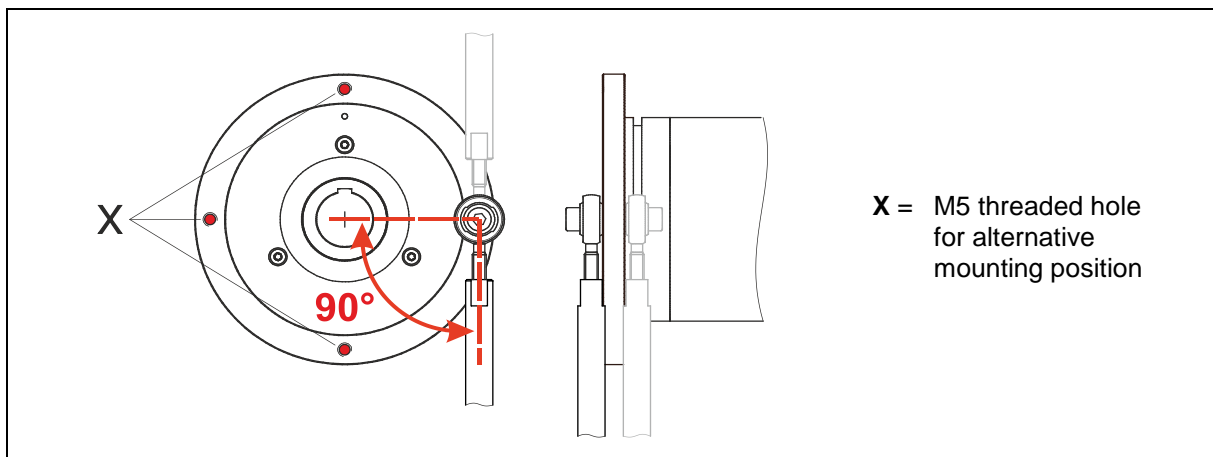

Figure 9: Joint head rod – mounting variants
- The joint head rod can be positioned on the measuring system flange in several ways. See Figure 9: Joint head rod – mounting variants.
- For maximum support of the measuring system, the joint head rod must be mounted at a 90° angle to the line connecting the threaded hole to the center of the shaft, see Figure 9.